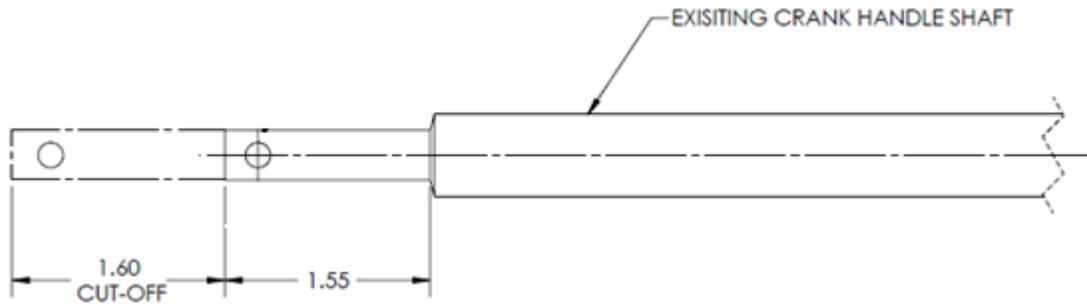

Figure 5
1. Cut or remove 1.60" (40.64 mm) from the spindle shaft. (Reference Figure 5)